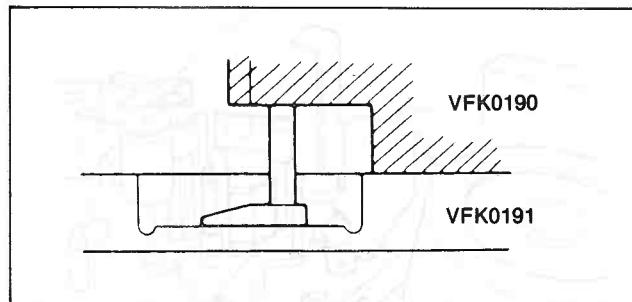

Figure M36
3. Place the Reel Table Height Gauge on the plate so that the scraper of the gauge touches the cut-out portion of the plate, then set the gauge to zero "0" as shown in Figure M36.